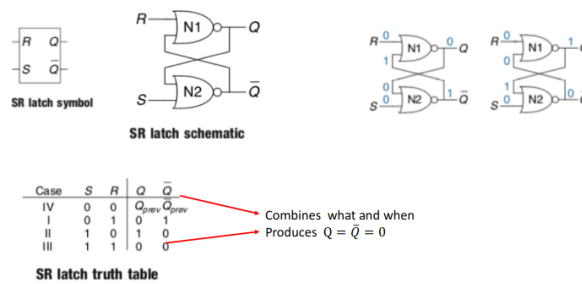

Figure 1: SR Latch
1. **SR Latch (figure 1):** Its state can be controlled through the Sand R inputs, which set and reset the output Q.